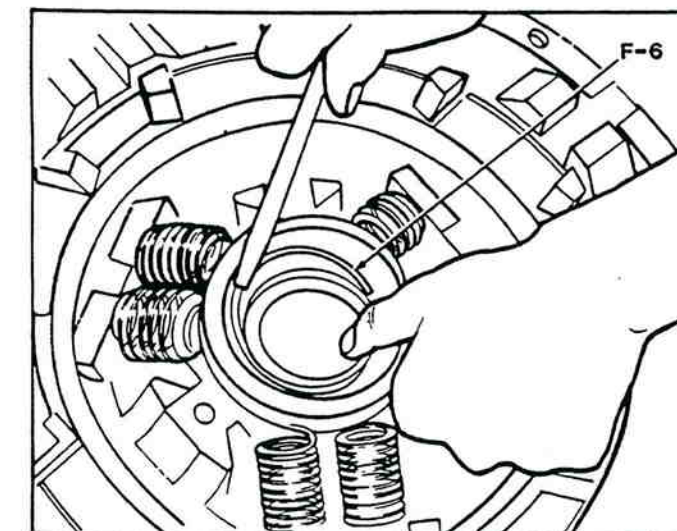

Figure 5-21. Install Retaining Ring.
8. Complete subassembly by placing retaining ring (F-6) in groove above the half-ring locks (figure 5-21)